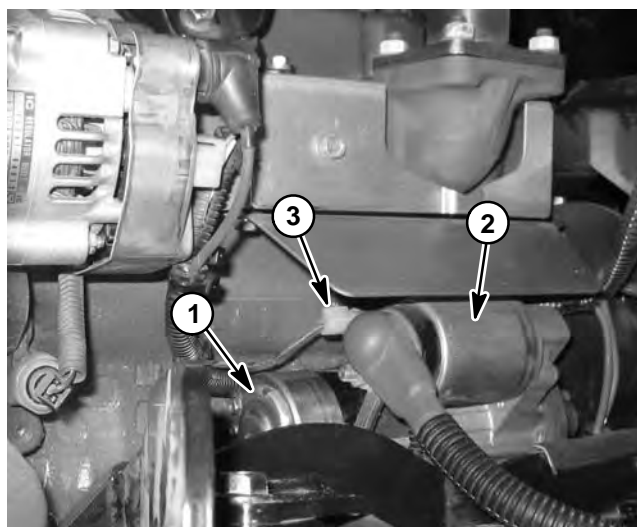

Figure 41
3. Connect remote starter switch electrical leads to the starter motor solenoid B+ terminal (Fig. 41) and the positive (+) terminal at the starter or battery.
4. Engage remote starter switch and crank starter for thirty (30) seconds to prime hydraulic pumps. Wait thirty (30) seconds to allow the starter motor and starter solenoid to cool. Repeat cranking procedure a second time.